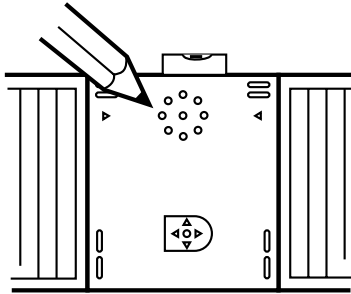

Fig. 22
2. Hold the wall template against the wall at the required boiler location. Ensure that the top of the template is level (Fig. 22).
4. Mark the position of the flue hole centre and the inward pointing corners of the two triangular cutouts in the template. Mark the position of the four fixing holes. Where possible use the uppermost and lowest fixing hole positions, otherwise space the fixing holes as far apart as possible (Fig. 22).